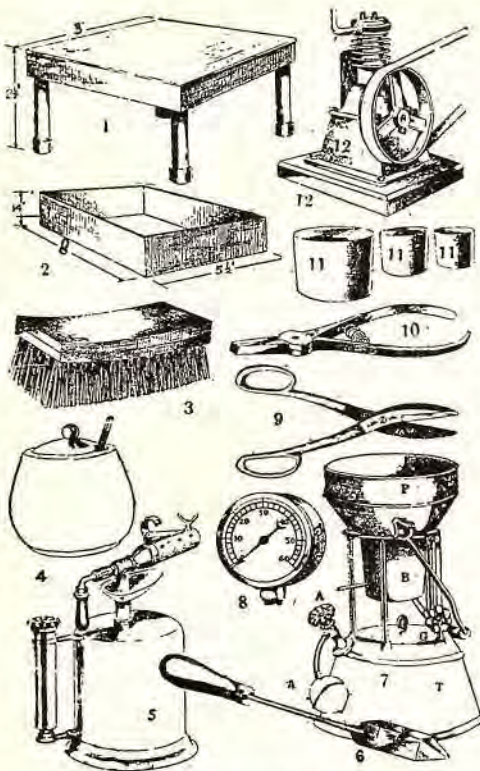
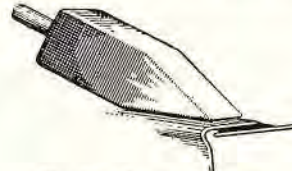

Fig. 81. Radiator repair tools and devices.
Fig. 82. Sweating a seam.
1. A table, as shown at (1) (Fig. 81) for assembling or disassembling. The repair outfit (Fig. 80) also includes a work table, dimensions of which are given on the illustration, covered with tin, and with racks for turning radiators upside down or otherwise.
2. A test tank, as shown in (2) Fig. 81, or in Fig. 80. Air pressure is necessary, but not over 8 or 9 lbs.
3. A compressor (12) (Fig. 81) should be provided for the air pressure, and a hot-water tank can be used for an air receptacle with a gauge (8) on the tank to indicate pressure. This air tank can be used for testing radiators, as ex-
4. A gasoline fire-pot torch (7) (Fig. 81) or a gas furnace (Fig. 80) must be provided for heating the soldering irons.
5. Two soldering irons (6) (Fig. 81) heavy enough to convey sufficient heat to the work. The iron should taper to a flat point as in Fig. 82. Long-pointed irons for core work are also necessary.
6. Acid (4) (Fig. 81) must be kept in a stone pot. It is made of commercial muriatic acid cut with zinc, that is, zinc is placed in the acid and left in it until boiling stops. It is used for cleaning parts before soldering, and as a flux for soldering. See also page 721 for soldering flux.
7. A blow-pipe torch (5) (Fig. 81) must be used, but should be of a type which will give a concentrated or flooding flame. It is used for soldering, loosening, or removing sections.
Sweating: When extra strength is desired, seams are "sweated." Sweating is accomplished by first putting the soldering iron (Fig. 82) on the seam to be sweated so as thoroughly to heat the metal. The solder is then flowed on to and between the pieces of metal to be united. The iron is again laid on the seam, in order to make sure that the solder flows in as deeply as possible. The iron must be very hot.